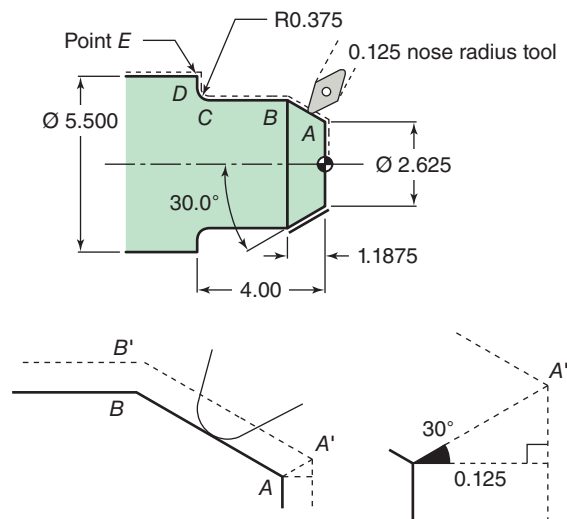

Figure 22-22 Review Problems 7 through 10.
7. Write a cutter centerline coordinate for point A, use Fig. 22-22, assume 0.125 radius on the tool nose. Use absolute values. X axis values are diameters on the drawing. See the blow-up sketch. (LO 22-3)
8. See Fig. 22-22. Complete the centerline cutter path coordinates (not the program) from PRZ to point E9 using absolute values and X diameters. Do not write the curve command (see Problems 9 and 10). (LO 22-3)
9. See Fig. 22-22. Write the curve command from point C9 to point D9 using the radius method and absolute values. (LO 22-4)
10. See Fig. 22-22. Write the curve command using the center point method (*IK*). (LO 22-4)